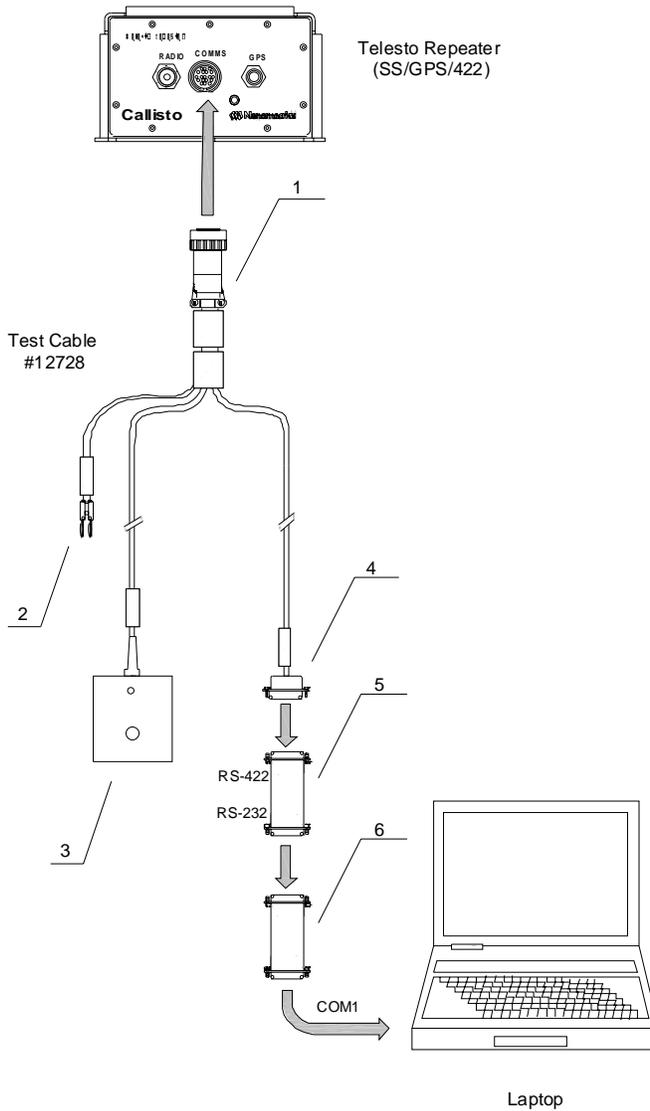

Figure 5: Telesto repeater (SS/GPS/422) test/configuration cable
The same cable labeled “Telesto (SS)(SS/GPS/422) Config Dwg 12728A” which is used to configure Telesto (SS) is used for Telesto (SS/GPS/422), as shown in *Figure 5*. . There are no software configurable parameters related to the GPS receiver or RS-422 module. All the configurable parameters are those of the spread spectrum transceiver. Note that in addition to the test cable to configure Telesto (SS) one must use the #12749 adapter plugged into the serial port of the computer. By contrast, to configure Telesto (SS/GPS/422) instead of that adapter other two adapters are used: the RS-232 to RS-422 adapter and the #12771 adapter, as presented bellow.